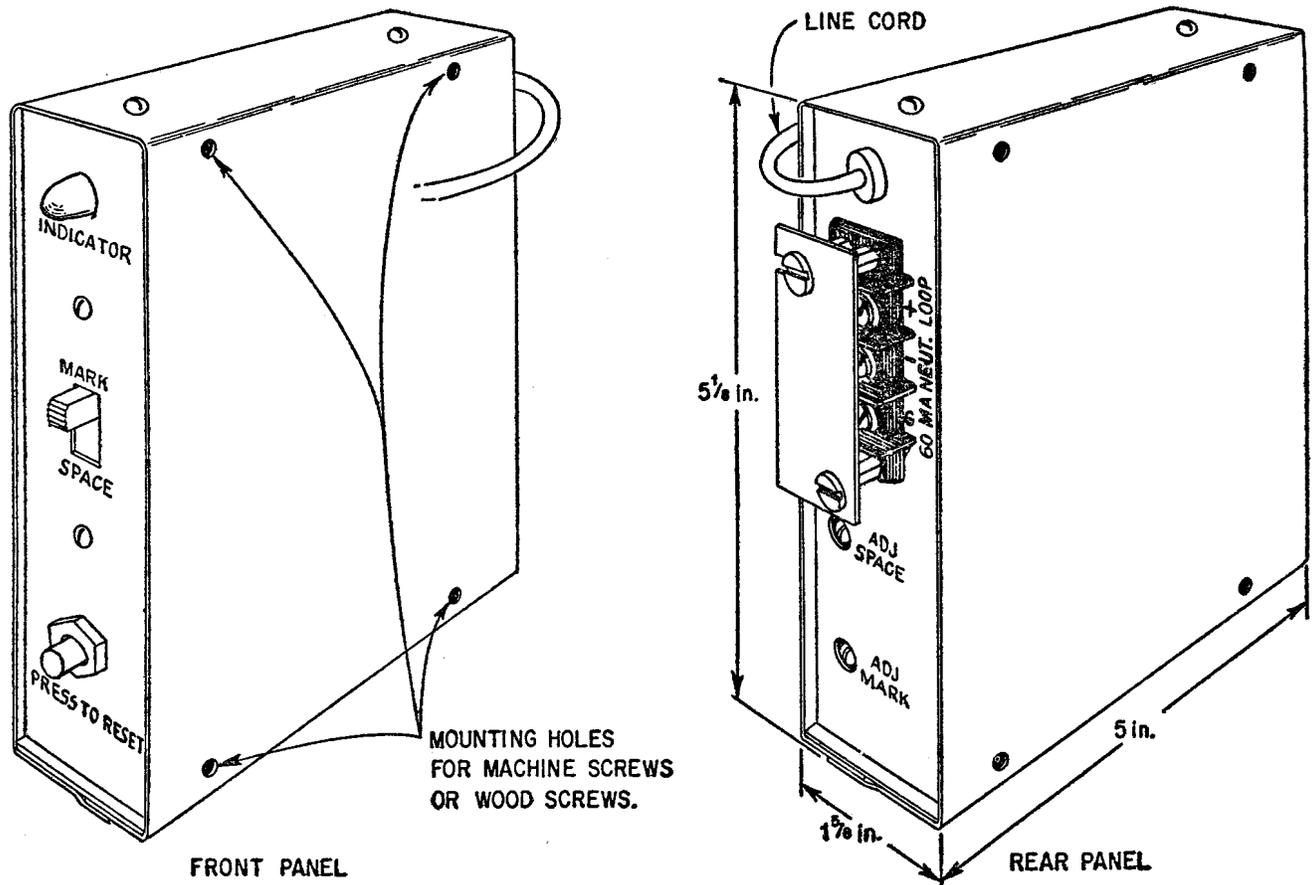

Figure 1 - SCI-1 Front and Rear Panels
1.01 This section contains information covering the description and application of the signal condition indicator coded SCI-1. The unit is located at customer stations to determine if the signals being received just prior to entering the teletypewriter are satisfactory. This unit shown in Figure 1 is intended primarily for use where 130- or 128-type teletypewriter subscriber sets or similar equipment is utilized. It may also be used where the station equipment is customer owned and maintained or as a trouble detecting aid on unusually long local channel facility layouts.